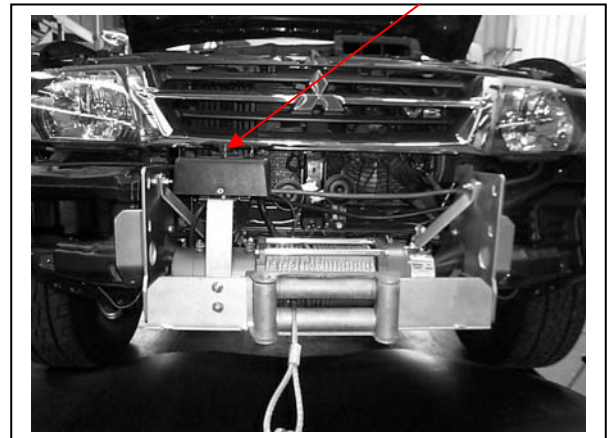

Figure 8
24. Install control box bracket with control box to inside of winch mounting bracket. **See figure 8.** Use 3/8 x 1 ¼ bolts, nuts and washers (supplied). **TIGHTEN IN POSITION,** approximately 20mm down from bottom of grille.